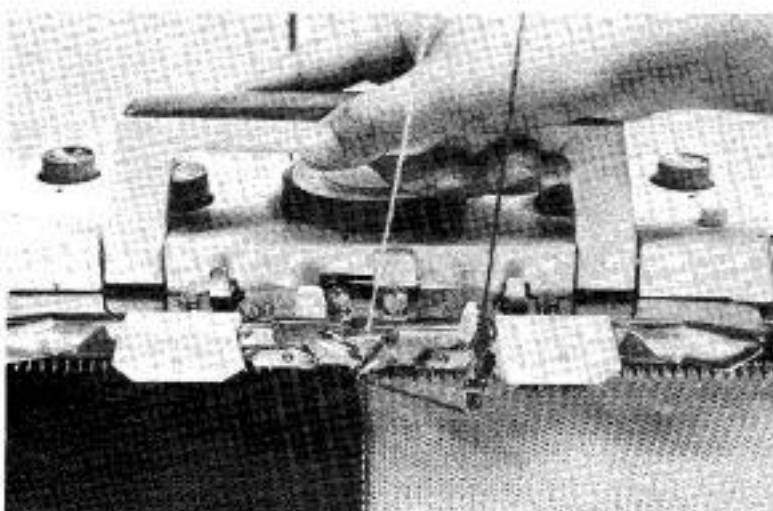
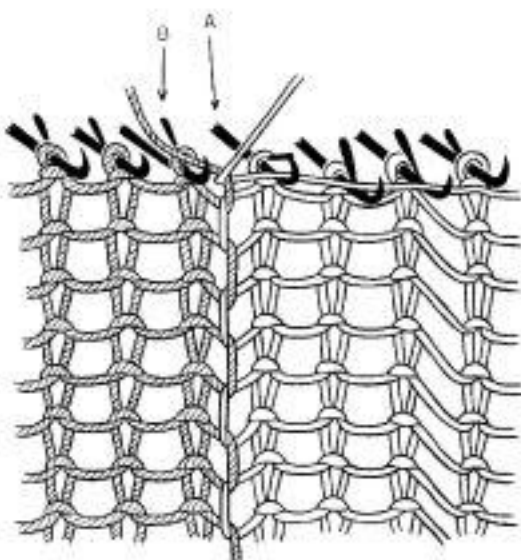
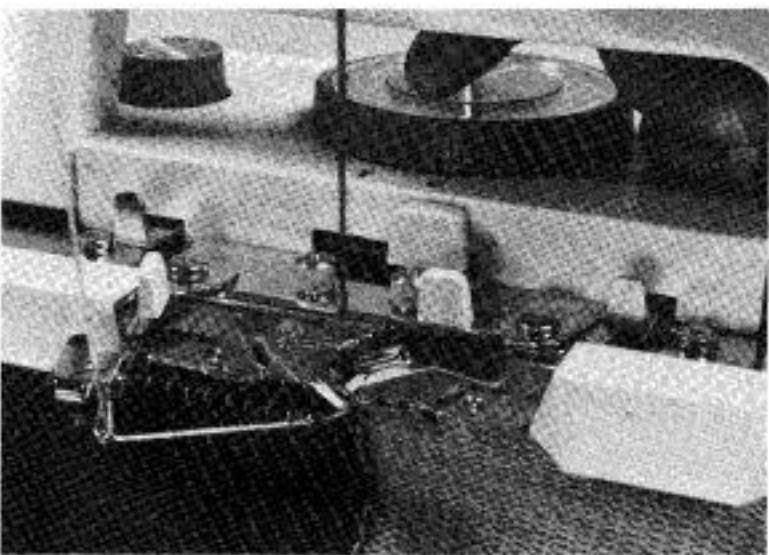

Fig. 140
Fig. 141
Fig. 144
Flick into action the left hand feeder with 1st colour, move the carriage across needles until you reach the last needle for this colour as shown in Fig. 140 i.e. until the needle marked 'A' in Fig. 141.
Be sure that the 1st colour wool has been placed in the hook of the last needle for this colour — needle marked 'A' as shown in Fig. 141.
4. Flick into action the right hand feeder to knit the remaining half of a row with 2nd colour. (Fig. 144) Start the knitting at the left adjacent needle (needle marked 'B' in Fig. 141) from the needle marked 'A' — also see Fig. 141.